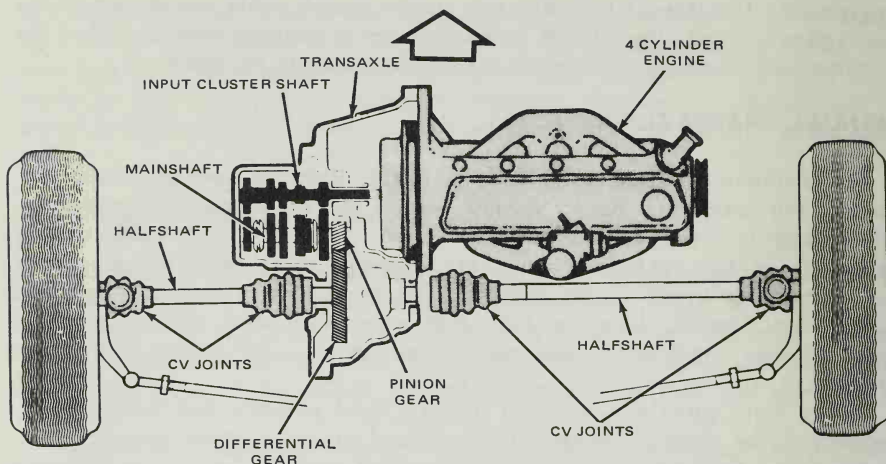

Fig. 13. Schematic drawing shows top view of 1.6 litre engine and transaxle with manual transmission. (Ford Motor Co.)
The front wheel drive employs constant velocity (CV) joints at both its inboard (differential) and outboard (wheel) ends for smooth operation. See Fig. 13.